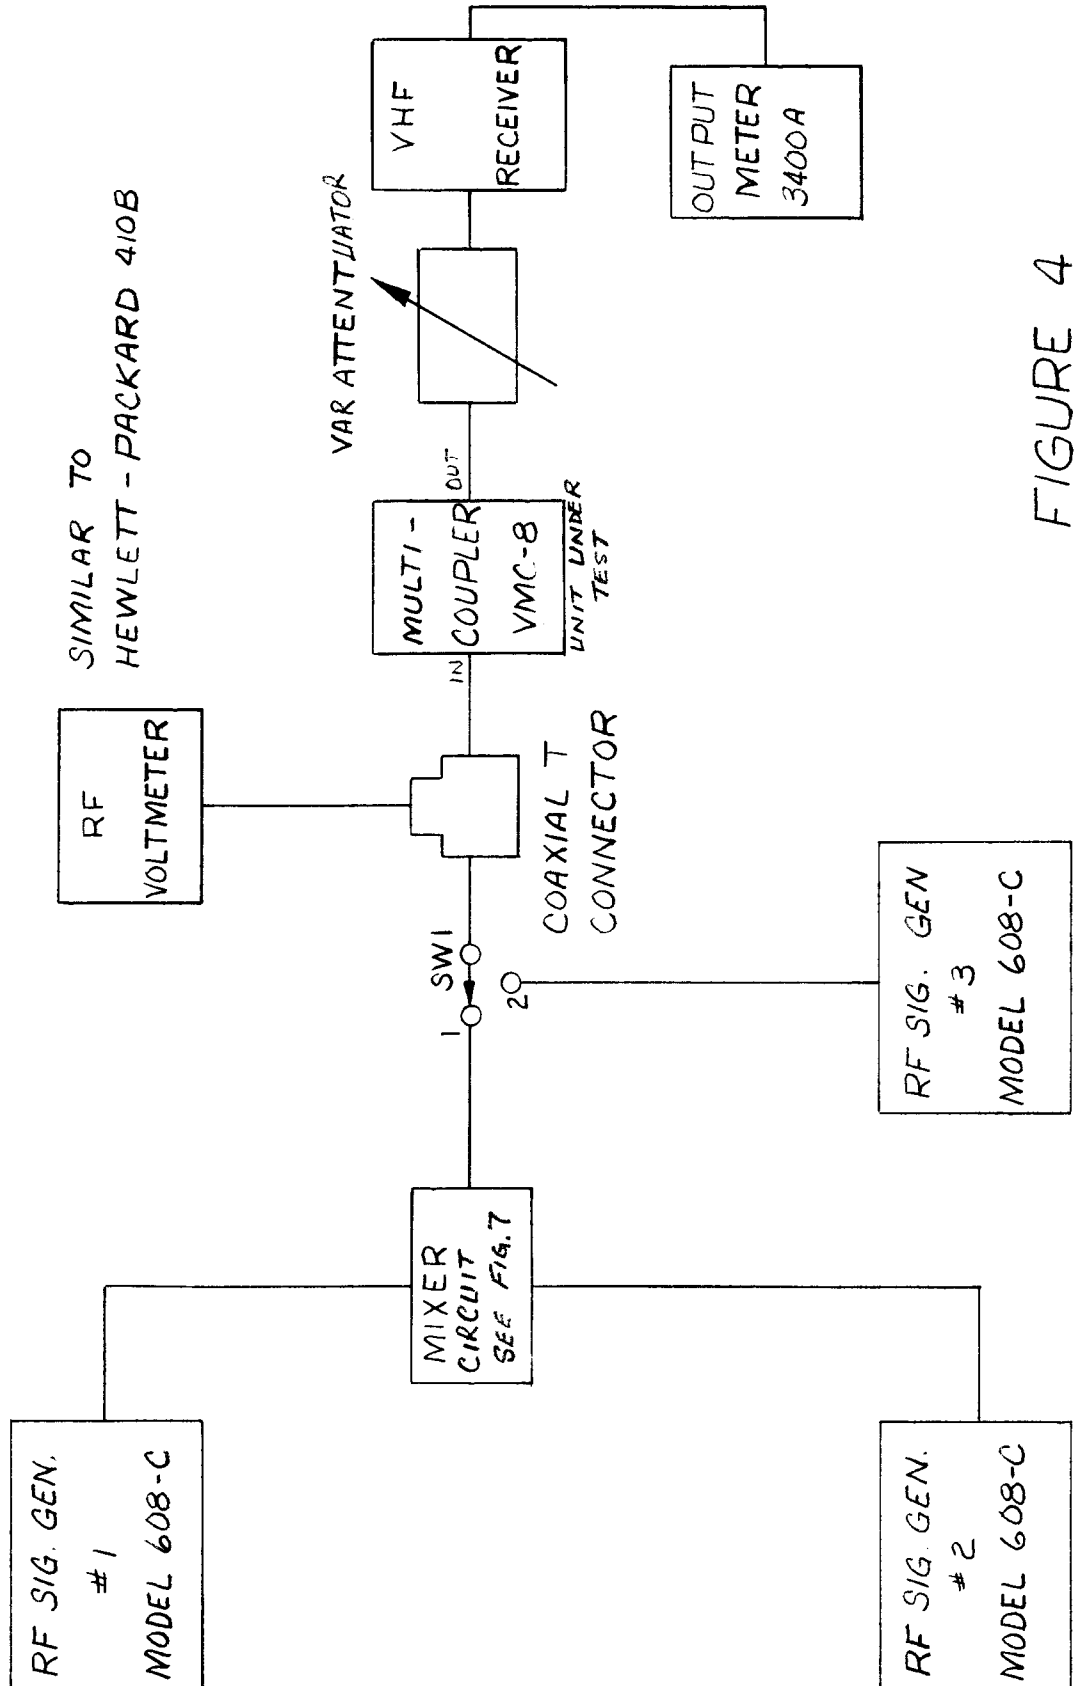

FIGURE 4
1. Connect the test equipment as shown in figure 4.